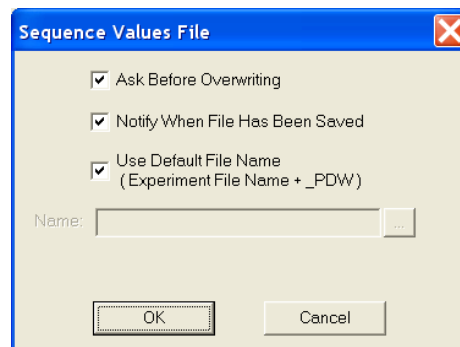

Figure 149. Sequence Values File dialog
**Setup File:** Opens the **Sequence Values File** dialog (Figure 149), which enables the following: